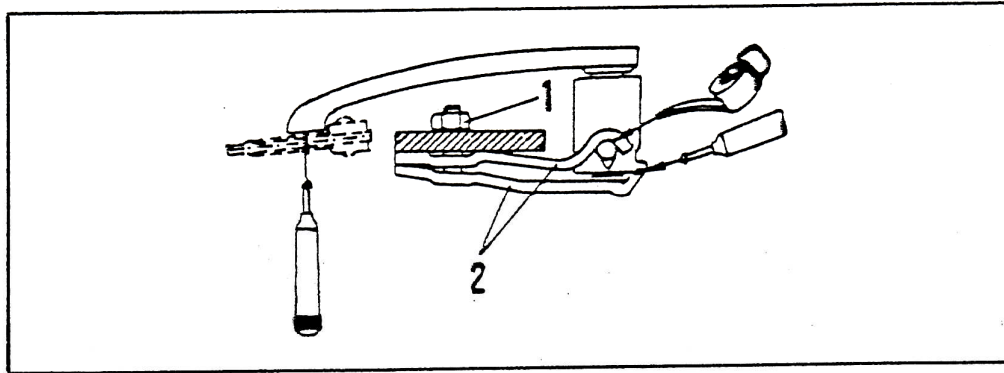
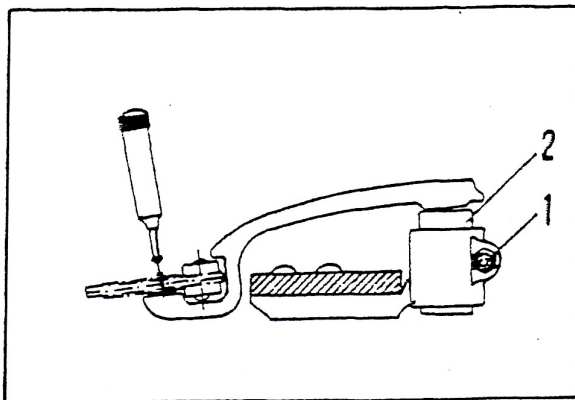
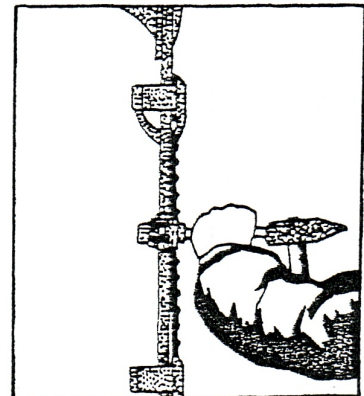

Figure 9
Figure 10
Figure 11
The upper handles are mounted in springs (Fig. 9, Item 2) and are fitted with a screw and self-locking nuts attached to the base lath.
The pressure of the lead handles on the upper pair of blades is about 12 - 14 daN per handle, which is achieved by tightening or unscrewing the nut (item 1, figure 9). The space between the springs needs to be cleaned more frequently and all the friction points are regularly lubricated and soaked.
The lower handles (figure 10, item 2) are mounted on the brackets in which they can be adjusted in terms of height (Figure 11).
The upper and lower leading handles of the blades (Figure 9, and Figure 10) must not touch the back surface of the cutting rod blades.